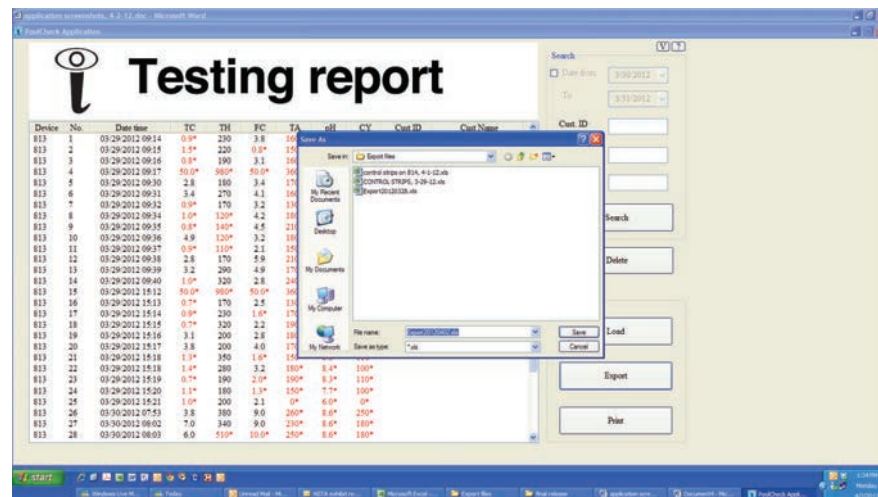

Figure 13—Export Dialog box
2. Follow the dialog box to name the file and save it in the desired location (Fig 13)